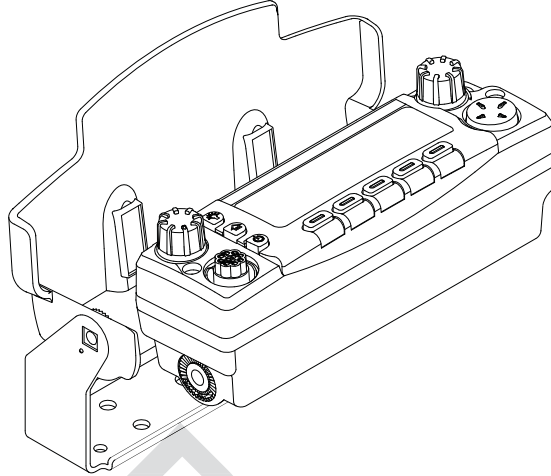

Figure 5-24. Slide the Control Head onto Trunnion
- Slide the control head onto the trunnion while aligning the edge of the control head with the edge of the sunshield as shown in Figure 5-24. Make sure the Velcro properly adheres to the control head.